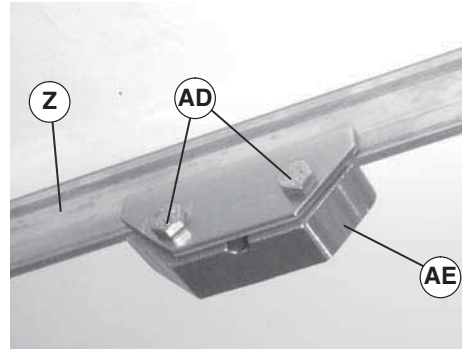

Figure 13
- Attach return roller assembly (Figure 13, item AE) on each side of conveyor (Z). Tighten screws (AD) to 80 in-lb (9 Nm).